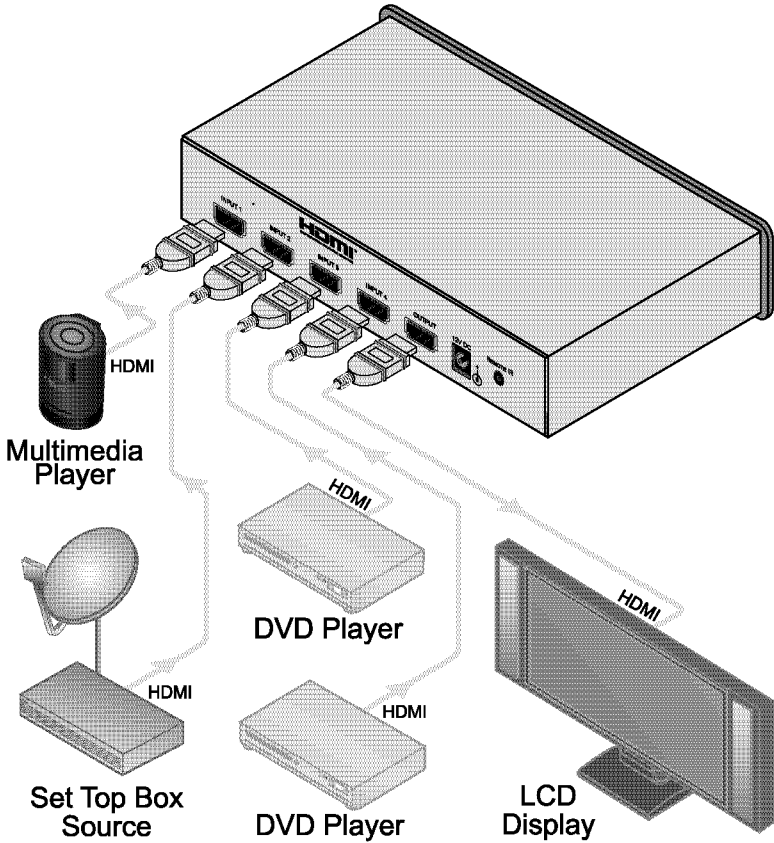

Figure 2: Connecting a VS-41HC 4x1 HDMI Switcher
To connect the **VS-41HC 4x1 HDMI Switcher** (as illustrated in Figure 2), do the following⁴:
4. Connect the 12V DC power adapter to the power socket and connect the adapter to the mains electricity (not shown in Figure 2).